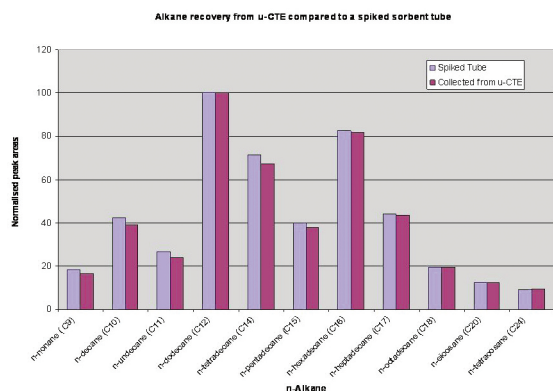

Figure 1. 1 μ L mixed alkane standard (C₉ to C₂₄) thermally desorbed from a sorbent tube (blue bars) and a μ -CTE at 120 °C (purple bars)
- 120 ° with 50 mL/min for 10 mins (Figure 1)